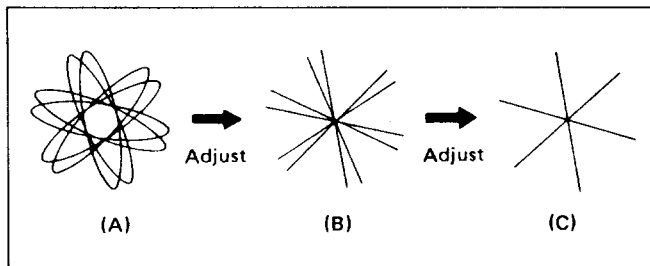

Fig. 2-9
6. Adjust R307 (DL AMP) so that the figure becomes (B) from (A). (Shown in Fig. 2-9)
7. Adjust T303 (DL P. TRANSF) so that the figure becomes (C) from (B).